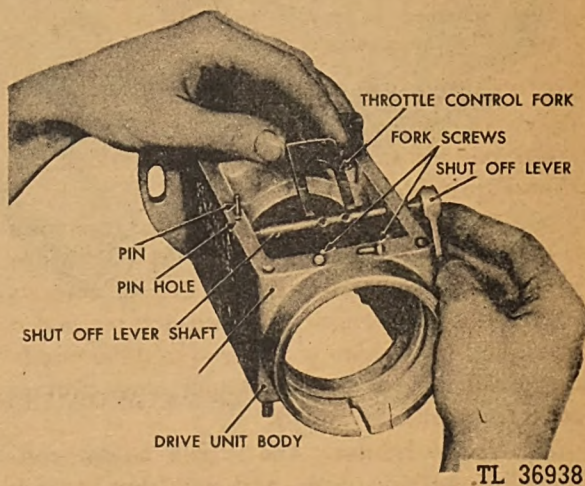

Fig. 286. Installing Shut Off Lever
(7) The shut-off lever and shaft assembly is retained in the unit by a loose-fitting pin (see Figure 286) extending down through the side of the drive unit body and engaging an angular undercut in the shaft. The pin is prevented from becoming disengaged with the shaft by the drive unit cover and gasket. To replace the shut-off lever and shaft assembly, the pin and throttle control fork must be removed. (See Figure 286.)
(8) The tappet body and drive shaft bushings should not be removed from the drive unit body. The bushings are burnished to a definite size after assembly in the body. The precision necessary on these parts can only be maintained at the factory.